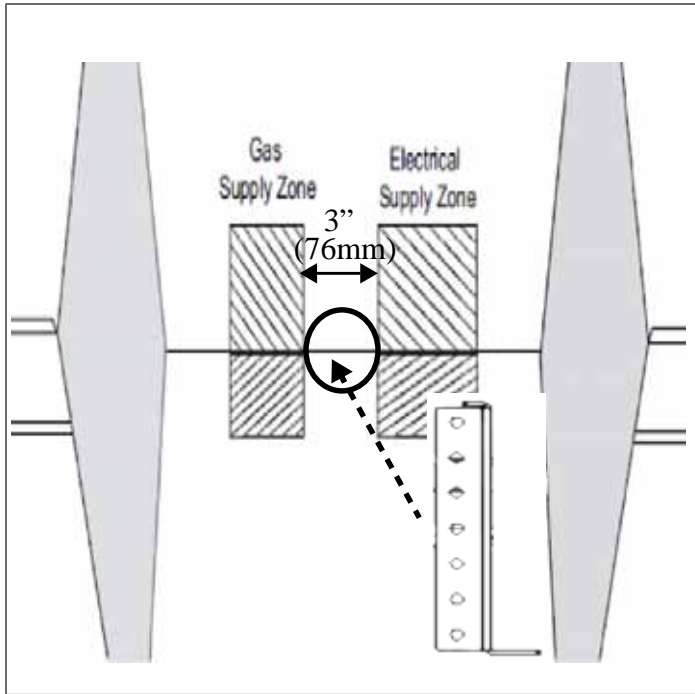
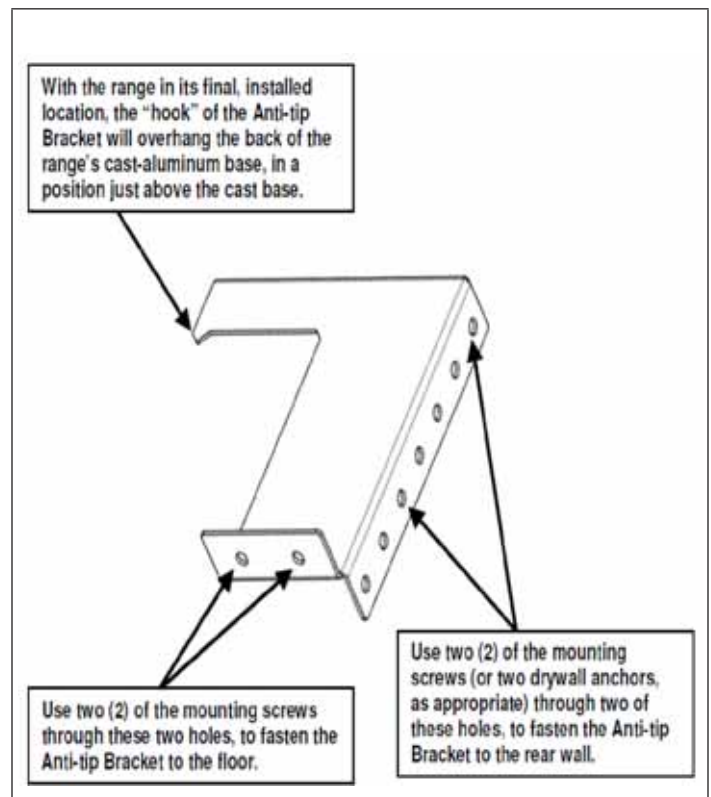

Figure 8: Anti-tip Bracket Mounting Location
Figure 9: Anti-tip Bracket
- In all cases, at least (2) of the bracket mounting screws must firmly fasten the anti-tip bracket to the floor, and (2) of the mounting screws (or drywall anchors) must firmly fasten the anti-tip bracket to the rear wall (see Figure 8 and Figure 9).
- Place bracket on floor near the center of where the unit is to be finally located (shown in Figure 8).